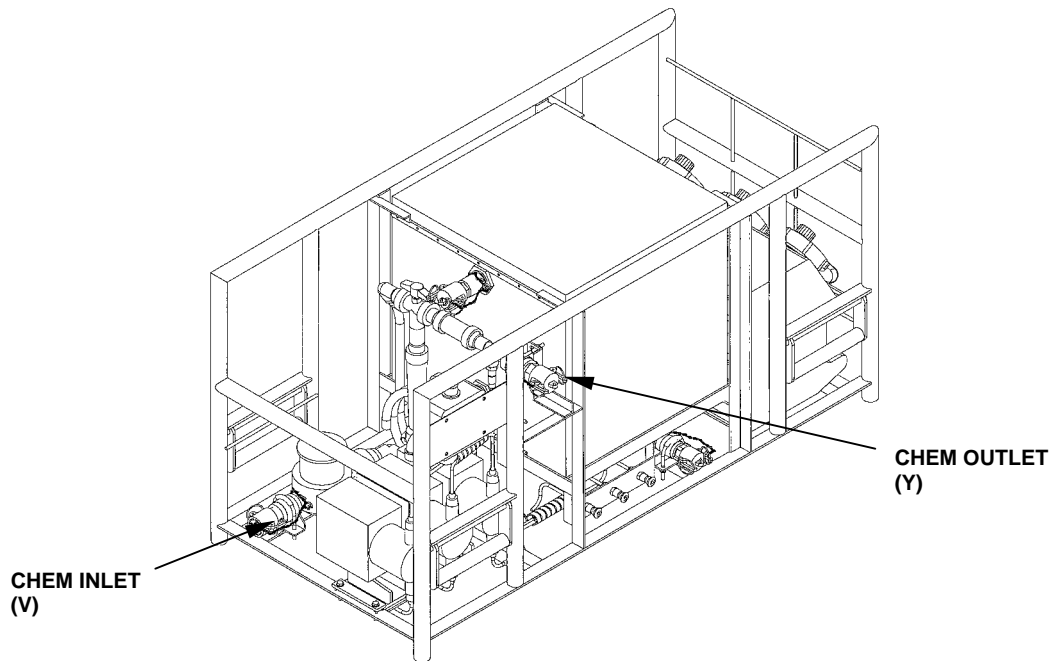

Figure 13. Chemical Module Product Water Hose Connections.
28. Connect one end of potable water hose (white) to the chemical module outlet. See Figure 1 and Figure 13.